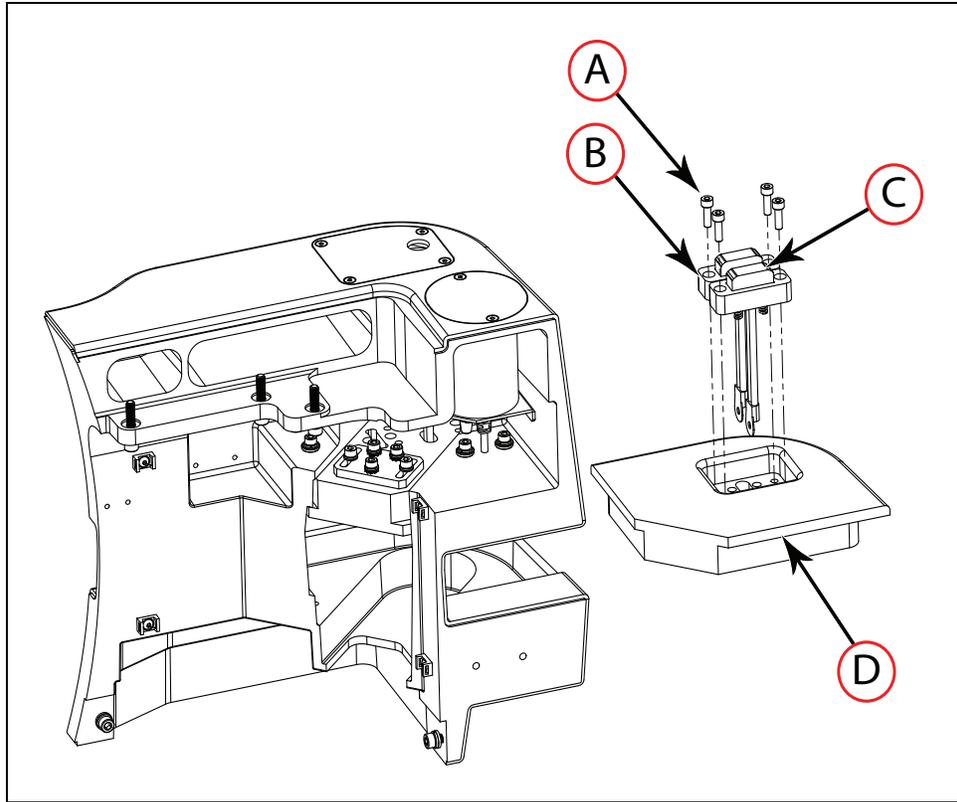

Figure 8-44. (A) M5 Screw, (B) Contact Holders, (C) Charging Contact, and (D) Base Plate
2. Next, unscrew all four M5 screws ((A) in Figure 8-44. that attach the contact holders ((B) in Figure 8-44. to the base plate ((D) in Figure 8-44.
Retain the screws for installing the new charging contacts ((C) in Figure 8-44.